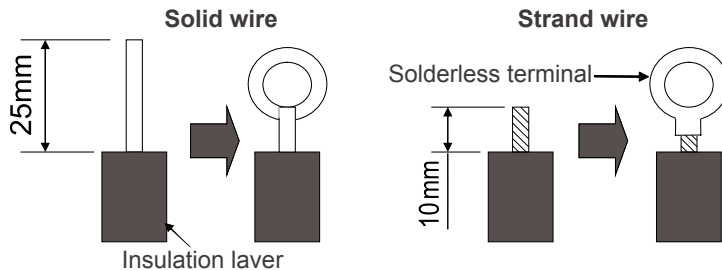

Fig.27
#### (1). For solid core wiring (Fig.27)
#### (2). For strand wiring (Fig.27)